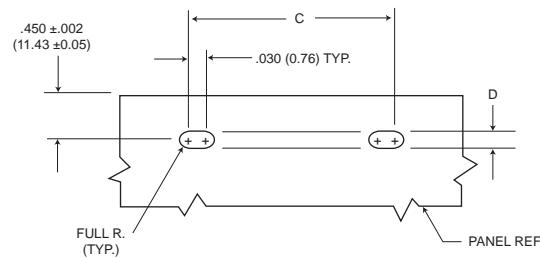

Figure 3
3. Edgeboard mounting bracket (figure 3) uses #2-56 screws. Dimension  $.450 \pm .002 (11.43 \pm 0.05)$  locates the MD receptacle flush with the end of the board.